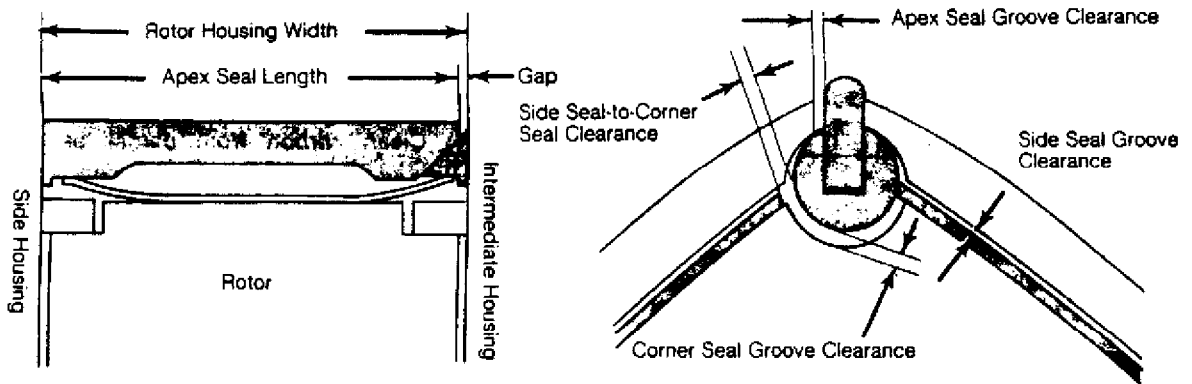

Fig. 18: Measuring Clearance of Apex, Side & Corner Seals
3) If neither end of gauge goes into groove, it indicates that gap conforms to specifications. If "Go" end of gauge goes into groove, it indicates that gap is more than standard, but less than wear limit. In this case replace corner seal. See Fig. 18.